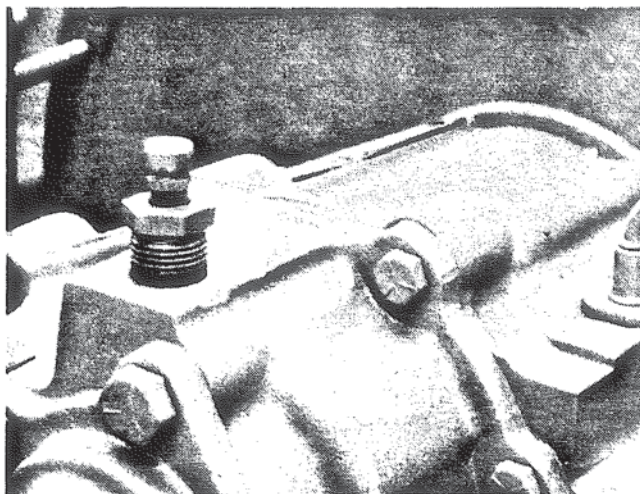

Figure 50. Breather Installation.
2. Press the bearing cup from front to rear, back face first, to bottom against the snap ring. Figure 50.
7. Breather and Reducer Bushing. Install the reducer bushing and breather assembly into the provided threaded hole at the top of the rear cover. Figure 50. Later production units replace breather and bushing and incorporate breather function in new designed oil level gauge. A plug is used when breather and bushing are eliminated.